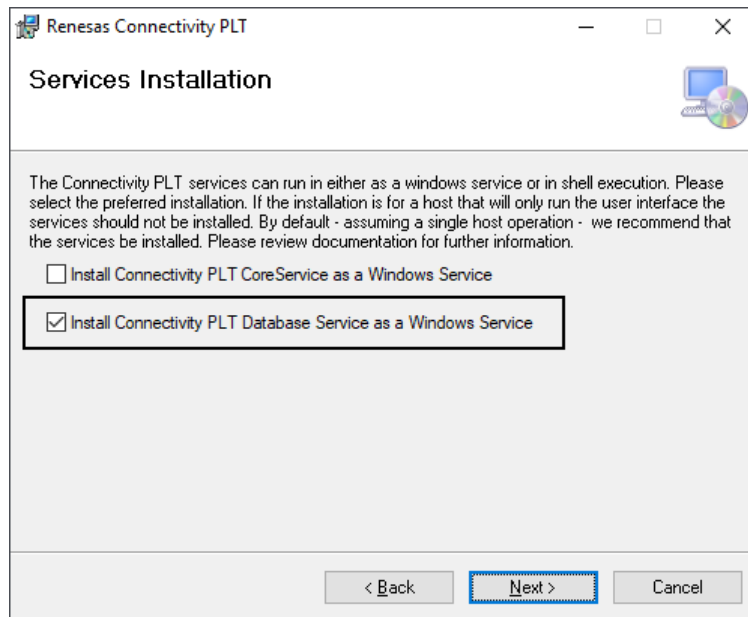
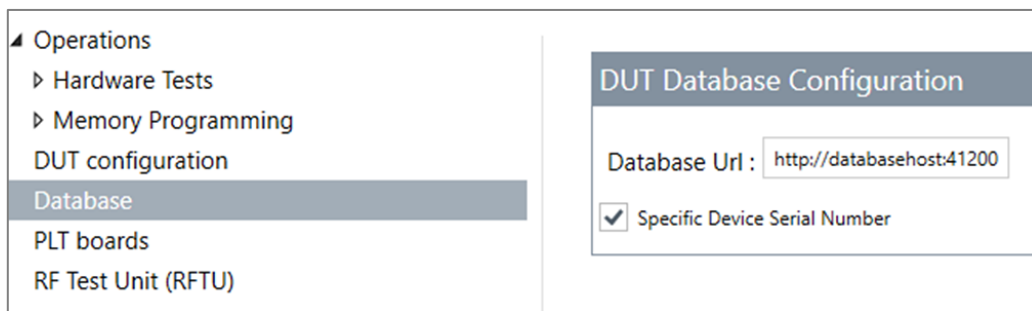

Figure 18. Database Service installation
Figure 19. Database Host configuration
- **Database Service System** – To use another host only as the database service, complete the installation enabling the Renesas Connectivity PLT Database Service Windows service during the installation and disabling the CoreService installation (Figure 18). Remember the IP address of this host as well. For the CoreService to communicate with the database on a separate host, the configuration should be updated with the correct IP address or a host name as shown in Figure 19.